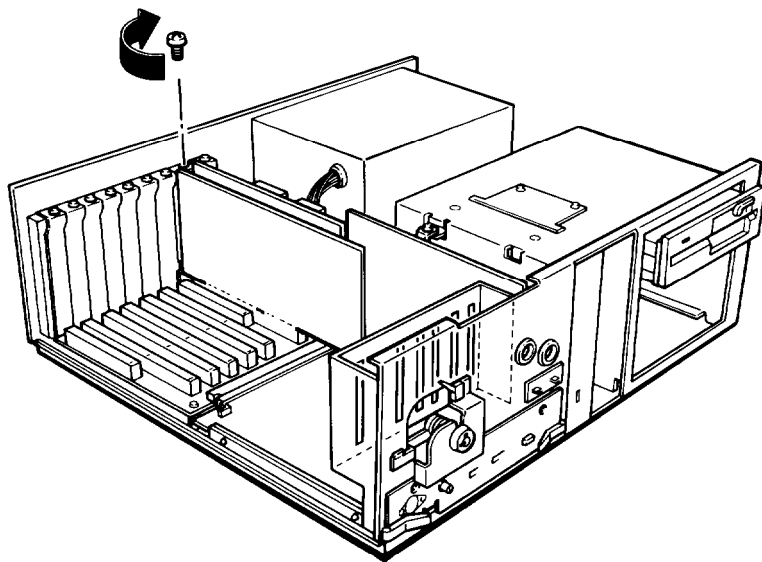

Figure A-11. Removing *multi-function card retaining screw*
2. Remove the retaining screw from the multi-function card at the back panel of the computer, as shown in Figure A-11.